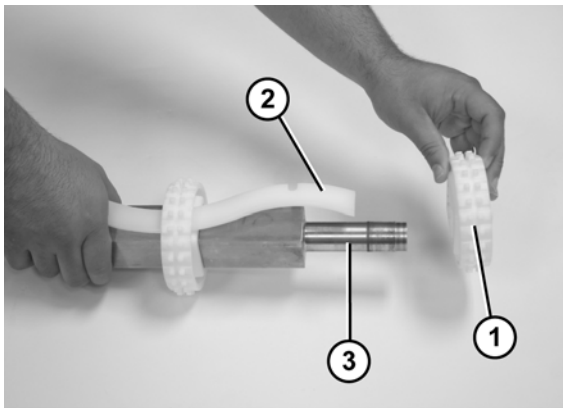

Figure 60
- Slide the sprockets (**Figure 60, item 1**) and the sprocket alignment bar (**Figure 60, item 2**) off the drive spindle (**Figure 60, item 3**).